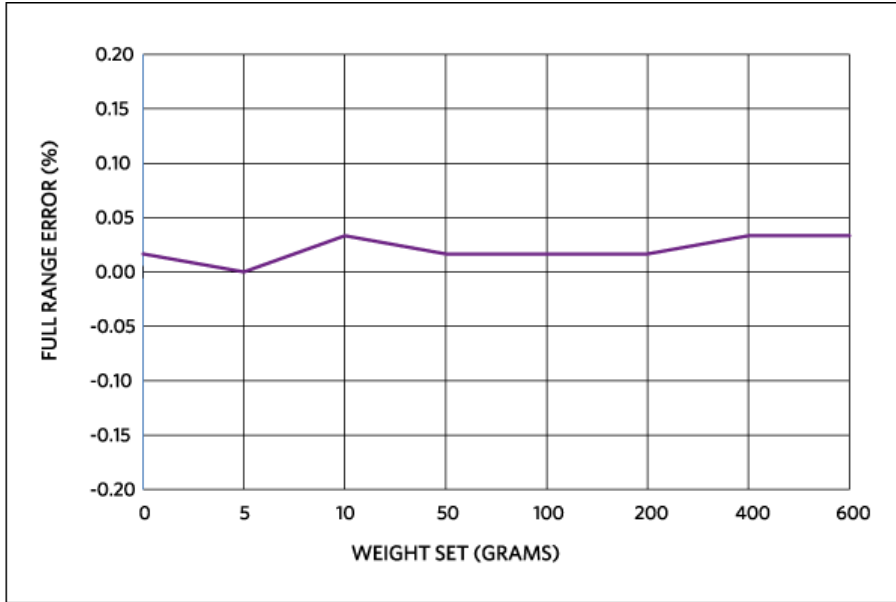

Figure 5. MAXREFDES82# full-range weight error for weight-set in the plate center.
**Figure 5** shows the weight measurement of standard weight-set placed on the center of the top plate.